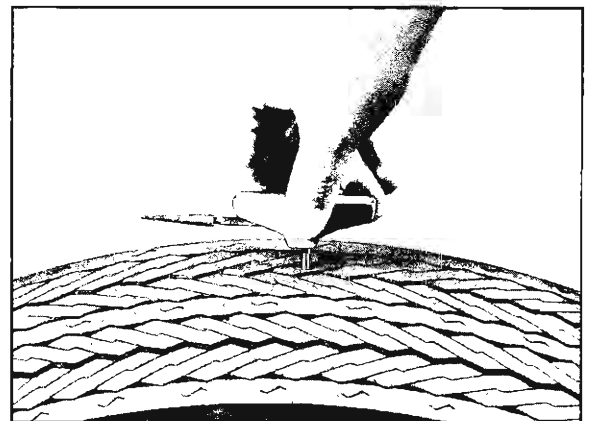

Fig. 17—Making Circular Cut with Reaming Tool
3. With cutter shaft of reaming tool in position, make circular cut (approx. 1/4 in. deep) around puncture hole, using twisting action (fig. 17).
resulting from operation shown in Figure 17 has been removed. Leave the needle in the puncture to prevent escape of air.